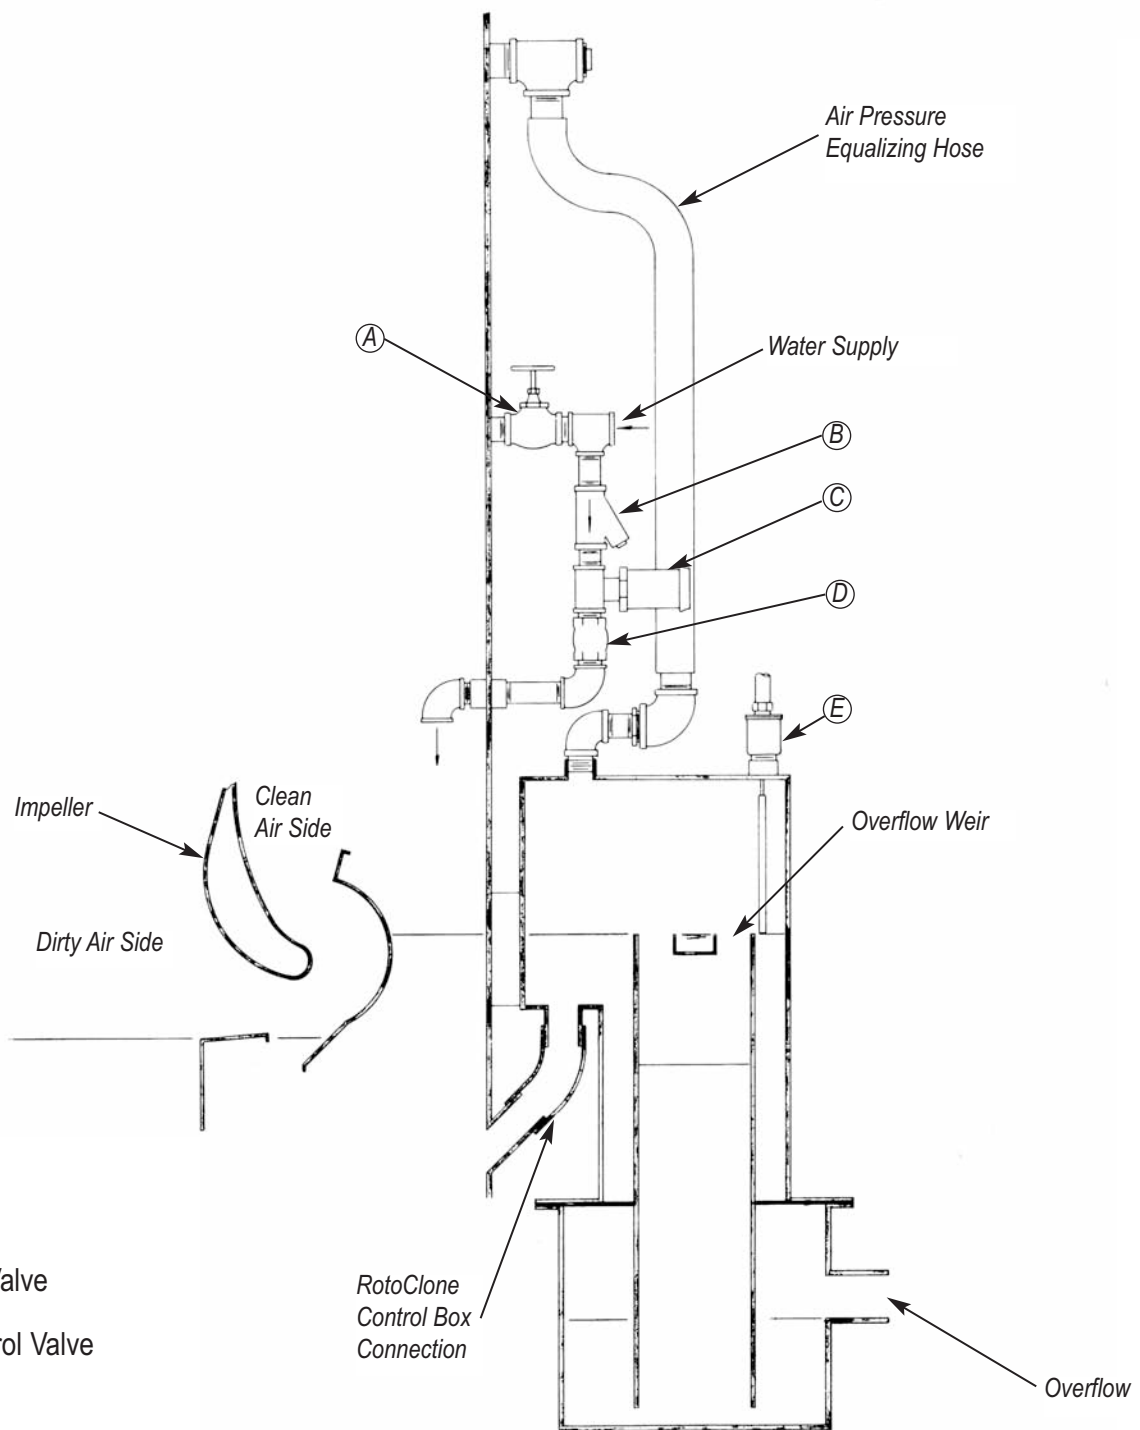

Figure 7. Control Schematic, Model "SV-HV" High Volume with LWSC (Type N RotoClone, Model B).
2. Model "SV-HV" with low water safety control. This control should be used for any explosive dusts. In addition to the standard "SV" controls, this model contains an electrode, electrode holder, and a timing relay. It does not use the flow switch (Figure 7).